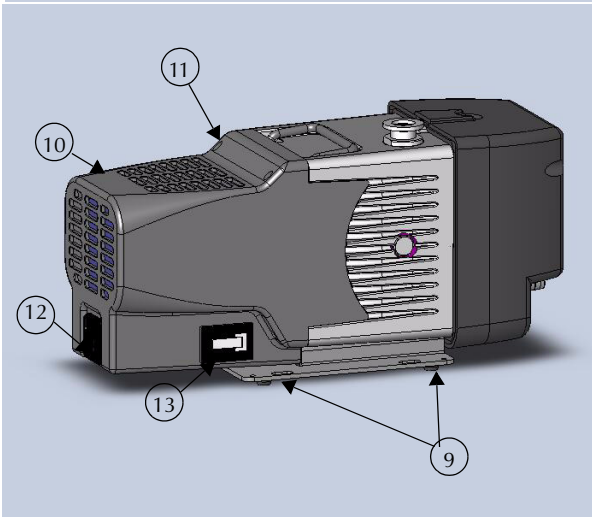

Figure 2 Outline Drawing and Principal Items
The pump incorporates an automatic gas ballast to prevent water and other condensates from accumulating within the pump. The standard configuration has a seal screw installed in the 1/4-20 thread in the top of the exhaust manifold (item 6 on Figure 2 on page 5). This configuration can be used for relatively dry applications. When appreciable amounts of water, solvents, etc., are being pumped, remove the seal screw and replace it with the provided adapter and 1/8" NPT sintered filter plug. Do not exceed 25 in-lb of torque when installing the adapter into the manifold.